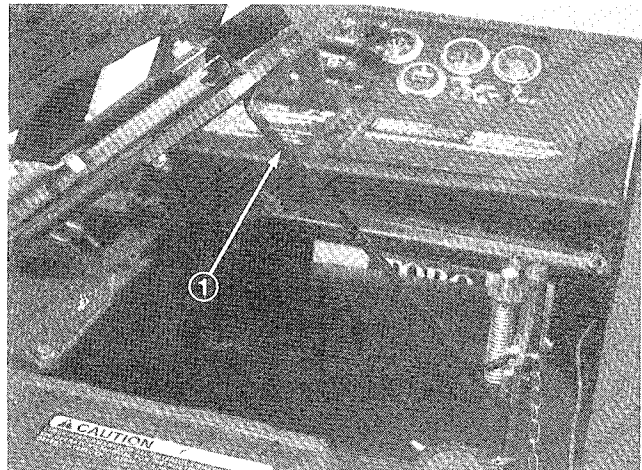

Figure 7
13. Hold seat up with seat support rod (Fig. 7).
15. Hold seat up with seat support rod (Fig. 7).